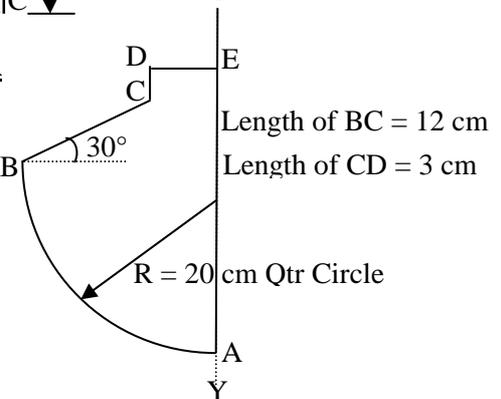

Fig. 8 Que 3(c) OR
- (c) Determine volume of revolution generated by revolving plane lamina ABCDEA shown in **fig. 8**, about y –y axis, to 2π rad. Write statement of theorem used for calculating volume. **07**